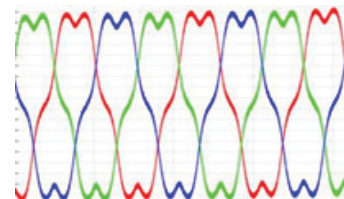

Figure 31: Harmonics 180 Degrees Out of Phase from Fundamental
- If the BEMF voltage has saddles in the shape of Figure 31, set BEMF_COMP_PHASE to 180°.